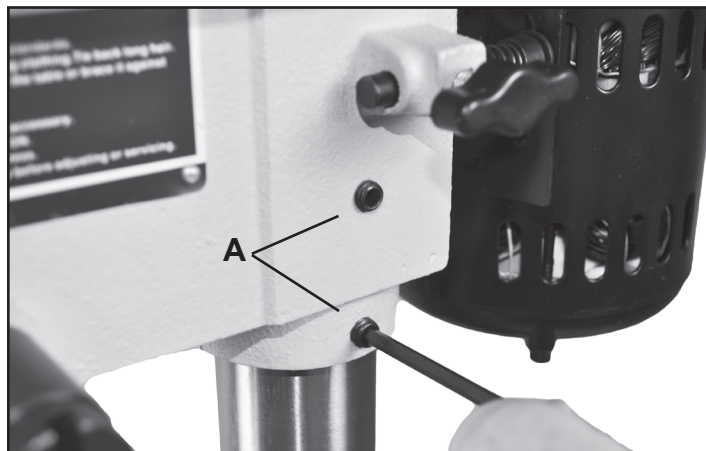

FIG. 4
4. Center the drill press head over the table and base. Tighten the drill press head into position by locking the two hex screws on the side of the casting. FIG. 4, A.